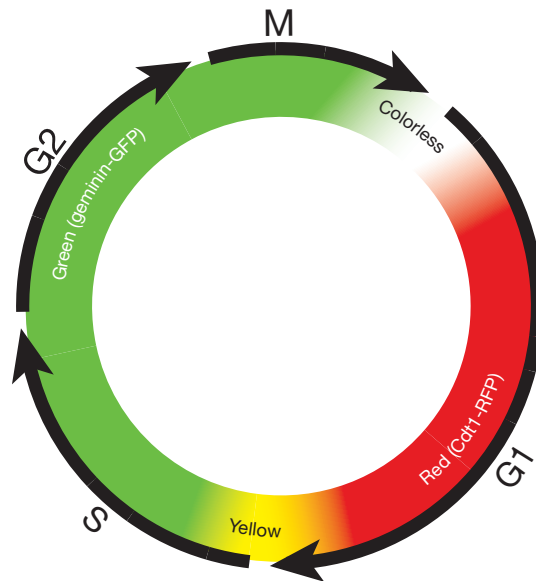

Figure 1. Premo™ FUCCI Cell Cycle Sensor schematic.
In 2008, Miyawaki and colleagues developed the Fluorescence Ubiquitination Cell Cycle Indicator (FUCCI), a fluorescent protein (FP)-based sensor that employs a red (RFP) and a green (GFP) fluorescent protein fused to different regulators of the cell cycle: Cdt1 and geminin.¹ These two constructs, Cdt1 and geminin, are ubiquitinated by specific ubiquitin E3 ligases targeting them to the proteasome for degradation. The temporal regulation of the activity of these E3 ligases results in the biphasic cycling of geminin and Cdt1 through the cell cycle. In the G1 phase of the cell cycle, geminin is broken down and only Cdt1 tagged with RFP may be visualized, thus identifying cells in the G1 phase with red fluorescent nuclei. In the S, G2, and M phases, however, Cdt1 is degraded and only geminin tagged with GFP remains, thus identifying cells in these phases with green fluorescent nuclei. During the G1/S transition, as Cdt1 levels decrease and geminin levels increase, both proteins are present in the cells, allowing GFP and RFP fluorescence to be observed—when green and red images are overlaid, the cells appear with yellow fluorescent nuclei. This dynamic color change from red-to-yellow-to-green represents the progression through cell cycle and division (Figures 1 and 2).